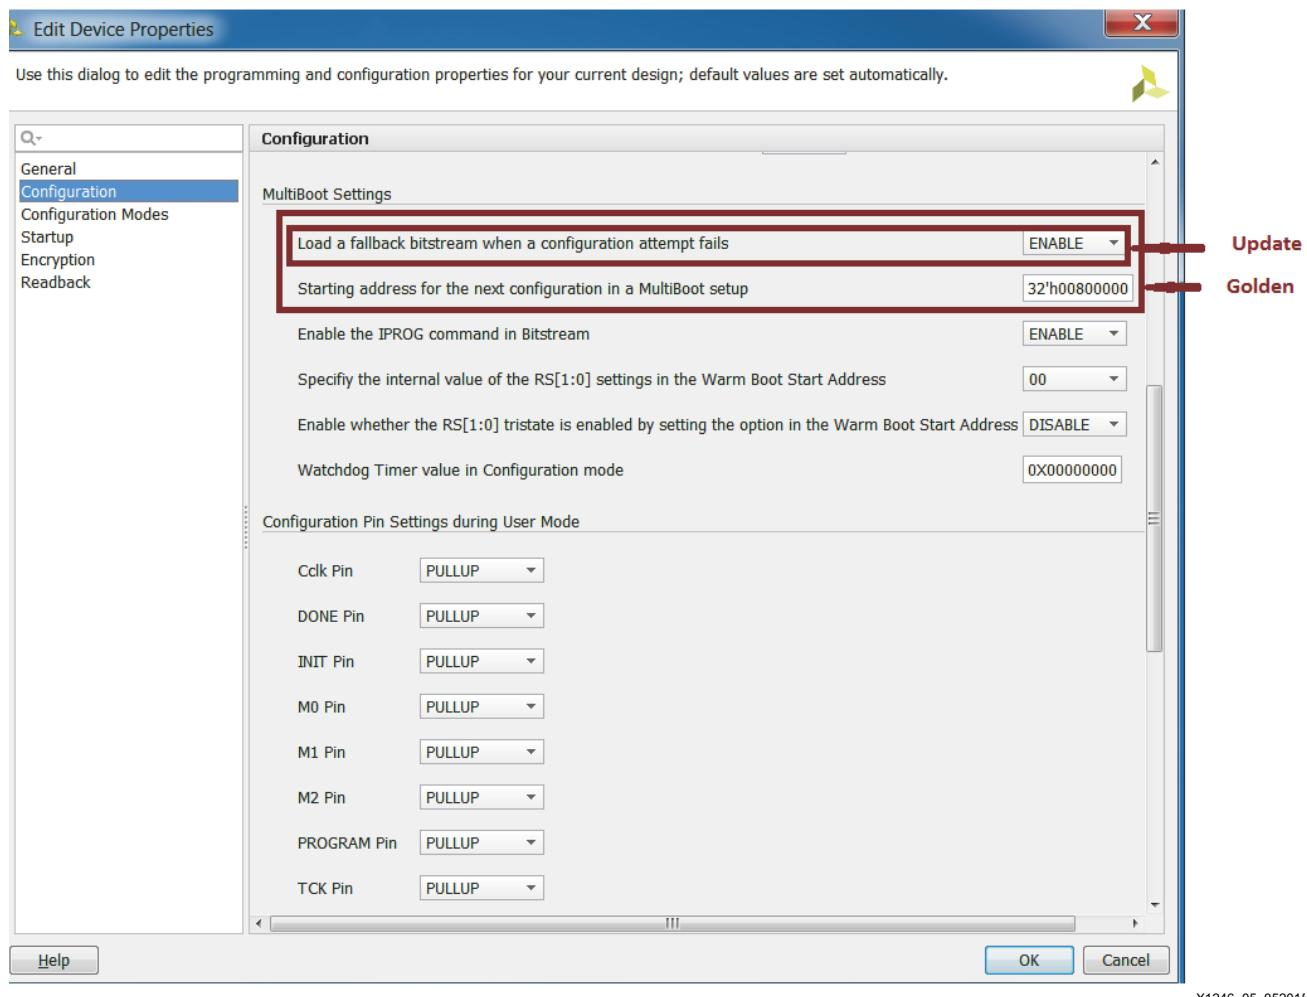

Figure 5: Configuration Options to Generate Golden and Update Bitstreams
4. Under **Edit Device Properties/Configuration/MultiBoot Settings**, ensure that *Load a Fallback bitstream when a configuration attempt fails* is set to **ENABLE** (for both the golden and update bitstreams), and that *Starting address for the next configuration in a MultiBoot setup* (golden bitstream only) is set, as shown in Figure 5.